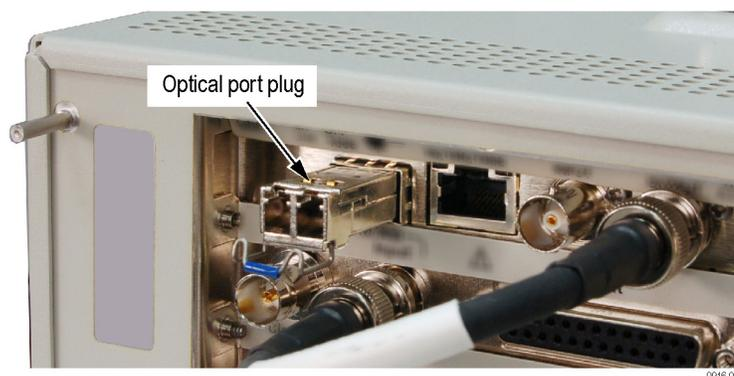

Figure 3-11: Removing the SFP module.
3. Flip down the SFP module retaining latch, and then remove the module from the instrument as shown in the following figure. (See Figure 3-11.)